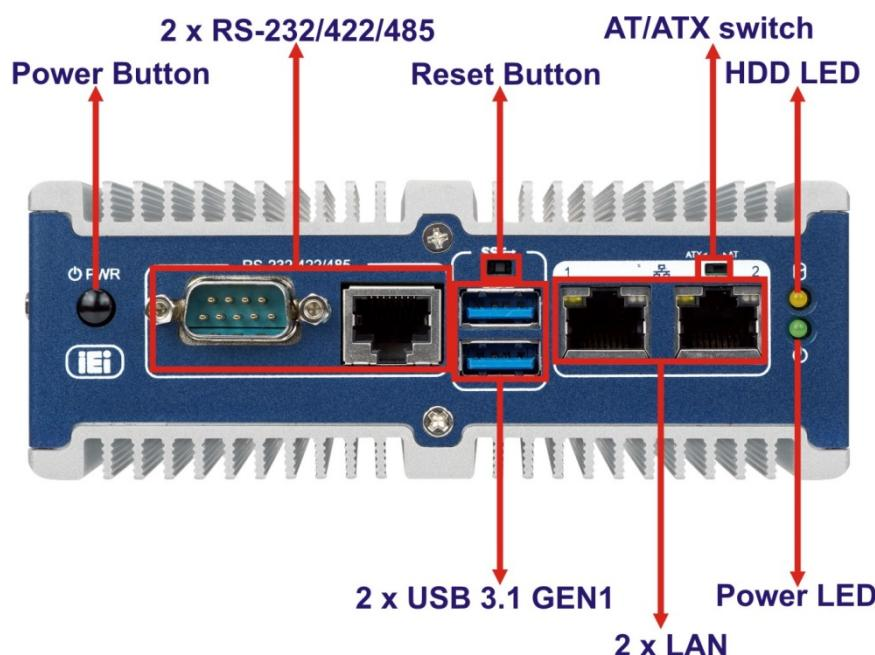

Figure 1-3: ITG-100AI Front Panel
The front panel of the ITG-100AI has the following features (**Figure 1-3**):
Step 1: **Locate the DB-9 connector.** The locations of the DB-9 connector are shown in Figure 1-3.